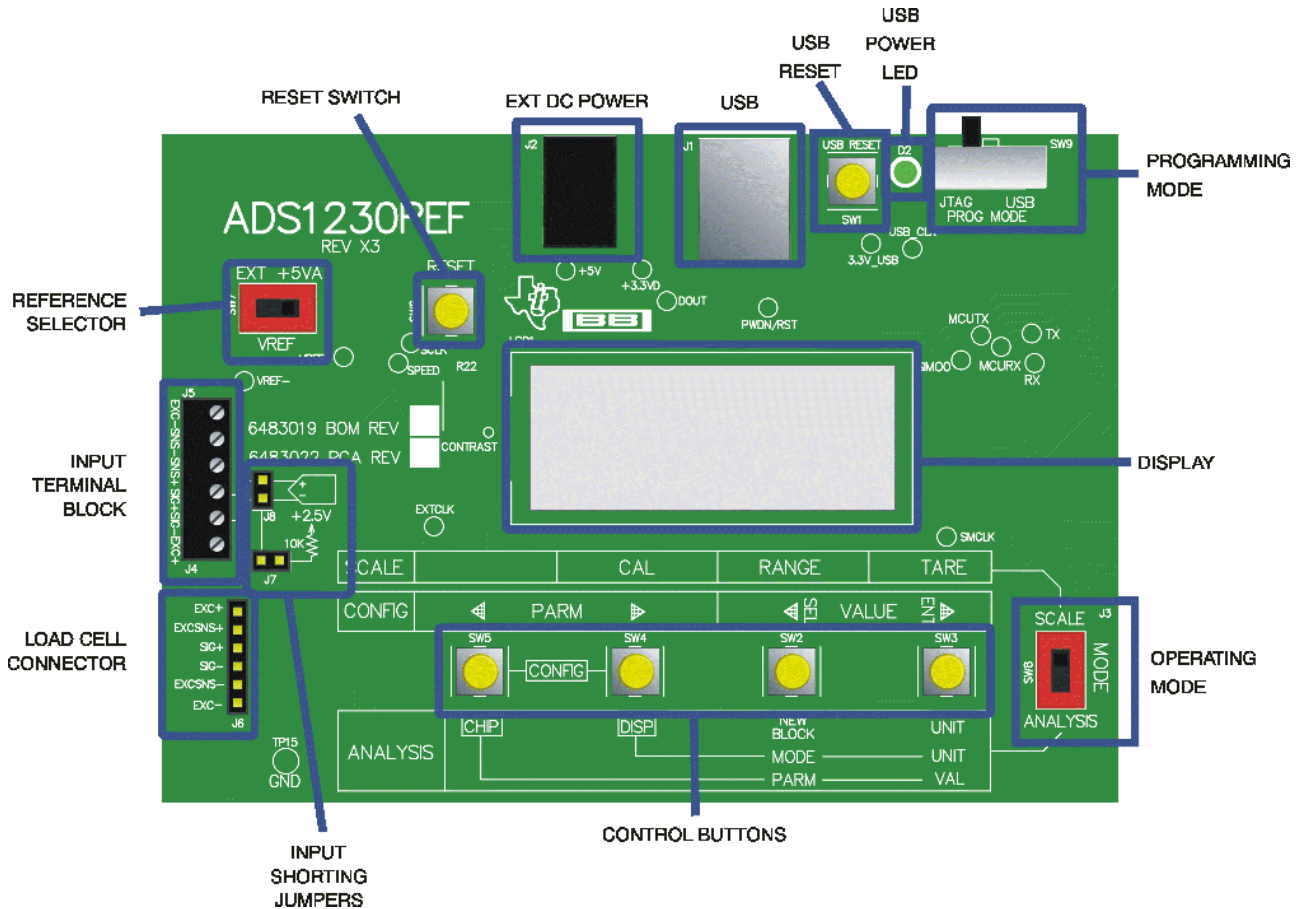

Figure 1. ADS1230REF Controls and Connectors
A diagram of the ADS1230REF is shown in Figure 1.
The main controls for the ADS1230REF are the four buttons and the mode selection slide-switch (see Figure 1).
2. Short jumpers J8 and J7. (These jumpers are located very near the terminal block, and are marked *Input Shorting Jumpers* in Figure 1.)
2. If the input shorting jumpers J8 and J7 are connected, disconnect them (see Figure 1).